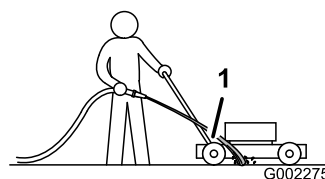

Figure 32
3. Hold the running garden hose at handle level and direct the water to flow on the ground just in front of the **right** rear wheel (Figure 32).